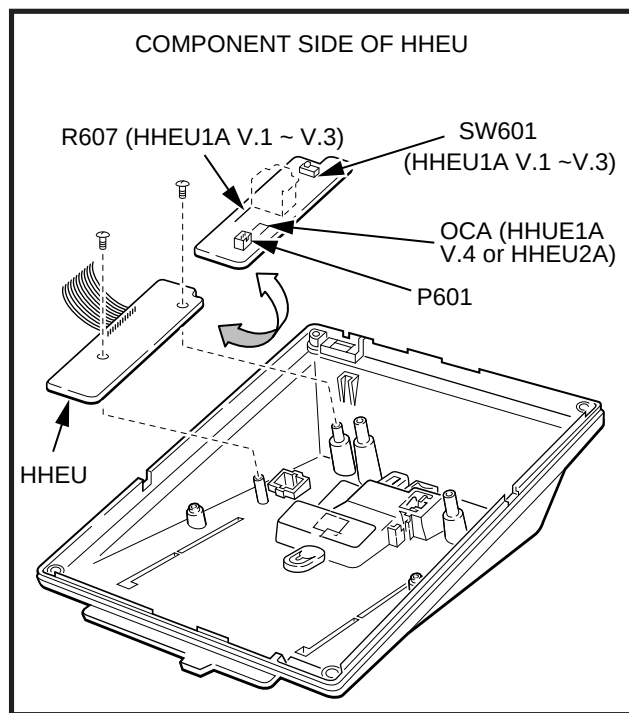

FIGURE 7-15
- 3) If using a **V.3** or earlier HHEU1, set the **SW601** switch to the **HEADSET** position for HESB and/or headset connection (Figure 7-15). This switch is not on either the **V.4** HHEU1 or the HHEU2, because the operation is automatic with these subassemblies.
- 5A) For the **V.3** or earlier HHEU1: If only the headset is connected to the HHEU, cut both sides of the **R607** resistor on the HHEU (Figure 7-15) and then remove the resistor to eliminate electrical contact.
- 5B) For the **V.4** HHEU1 or the HHEU2: If only the headset is connected to the HHEU, cut the **OCA** strap (Figure 7-15).
- 6) Position the HHEU subassembly on the stand-offs inside the base (Figure 7-15), and secure with the two provided screws.